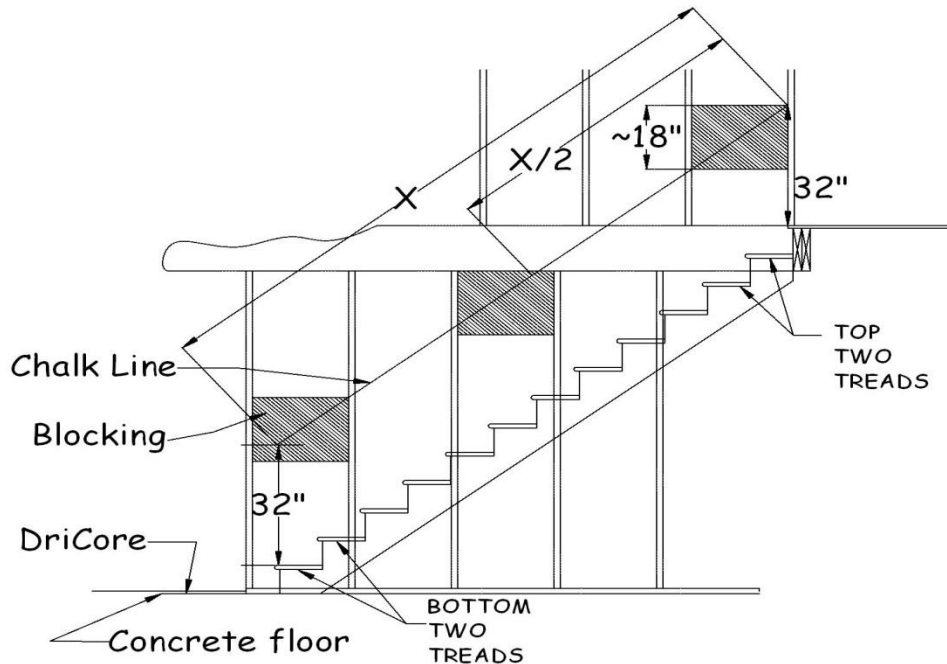

Figure 10-6. Blocking For Handrail.
2. The handrail bracket bottom screws will be mounted approximately 31” above a line that is defined by the nose of the treads. This will place the top of the handrail between the required 34” and 36” above the nose of the treads. To provide some latitude in the placement, measure up 32” from the decking, vertically at the edge of the floor deck, and mark the wall at that height. At the bottom of the stairs, again measure up 32” from the nose of the bottom stair tread. Snap a chalk line between the top and bottom marks. The blocking must be installed so that the top corner toward the top of the stairs is even with the line, and the bottom corner toward the bottom of the stairs is even with the line. (See Figure 10-6.)
3. For blocking, use a combination of scrap 2x12’s, 2x10’s or 2 x6’s to equal a minimum height of 18” (see Figure 10-6). The extra height helps to ensure that handrail brackets will be secured to the blocking after drywall is installed.